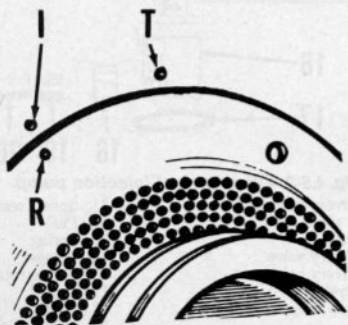

Fig. L5-4—View of timing marks located on air shroud. Refer to text for injection timing.
delivery valve (4) then screw delivery valve holder (1) into pump body. Move throttle control to full speed position. Rotate engine in normal direction (counterclockwise at pto) so piston is on compression stroke. Note fuel in delivery valve holder will spill out. Stop engine rotation at moment fuel ceases to flow out. Timing dot (R—Fig. L5-4) on fan plate should align with injection timing dot (I) on fan shroud. Ignition timing should occur at 22°-23° BTDC on Model L8, 23°45'-25°30' on Models LDA450 and LDA510, and 25°15'-26°45' on all other models.